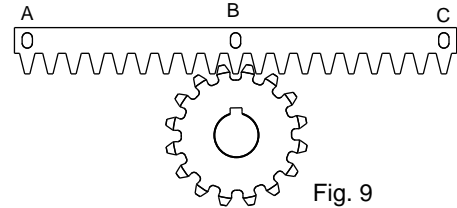
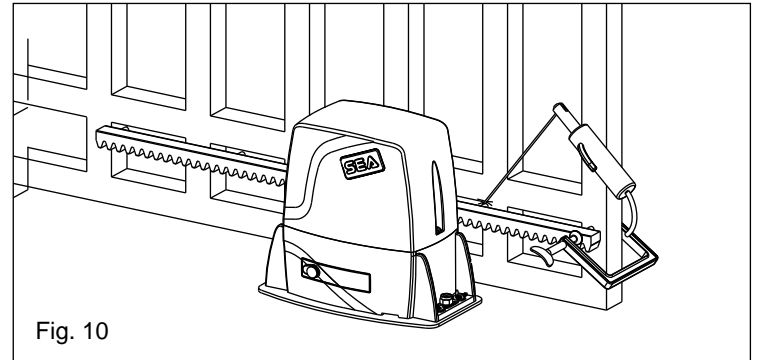

Fig. 9
Fig. 10
**6.3.** Lean the gear rack element on the toothed pinion of the motor so that it results parallel to the ground slideway of the gate, place it as shown in Fig. 9 and electrically weld the central pawl B to the gate structure (Fig. 10).